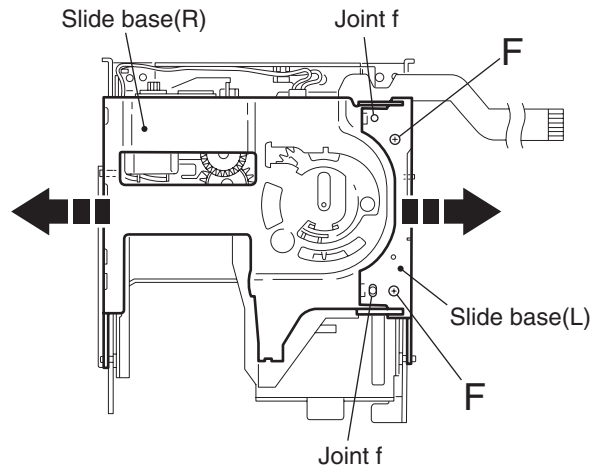

Fig.10
■Removing the slide base (L) and (R) (See Fig.10)
2. Remove the slide base (L) outward while releasing the two joints **f** on the bottom.
3. Remove the slide base (R) outward.